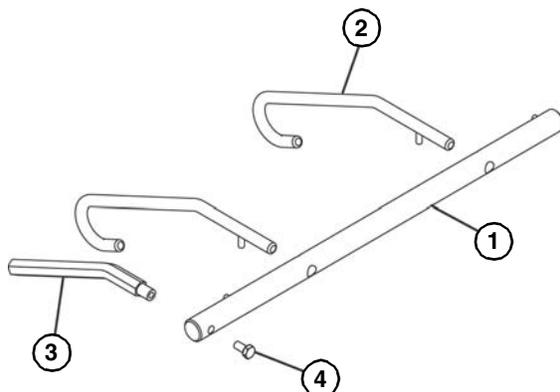

**Figure 25**
4. Ensure that the nose bar pucks (Figure 25, item 1) are in line with the conveyor frame (Figure 25, item 2).